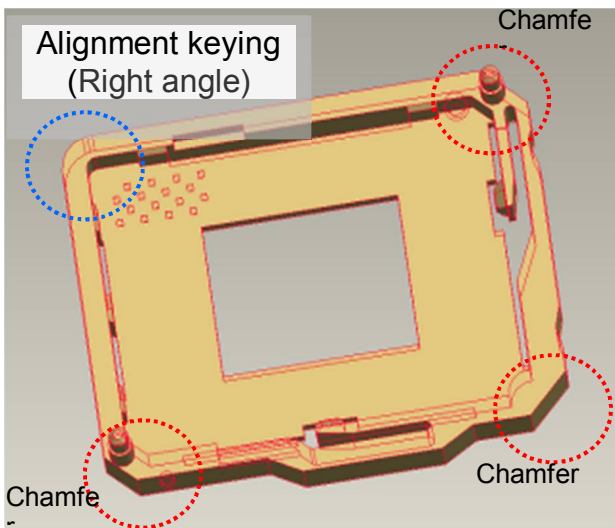
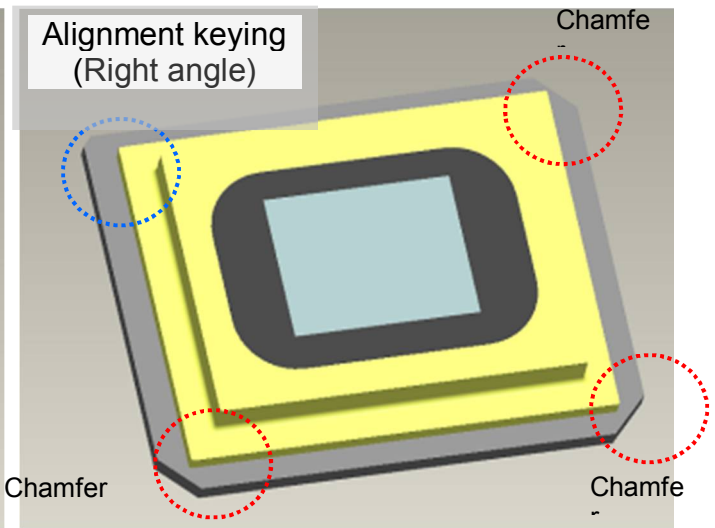

Fig. 4-1
Fig. 4-2
- A. Judge Socket and DMD alignment keying first. (Fig. 4-1 & Fig. 4-2)